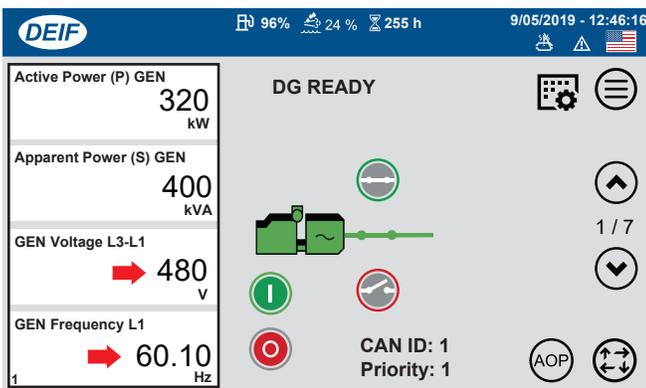

Figure 113. Voltage (V) and Frequency (Hz)
- On the touch display (Figure 113), verify that the **voltage (V)** and **frequency (Hz)** match the expected output.